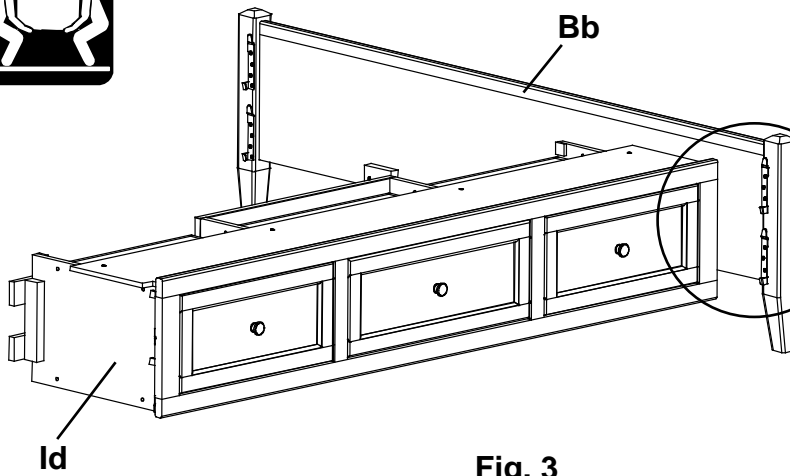

Fig. 3
- To attach the Footboard (Bb) to the Pedestal Assembly (Id), align the Brackets and slide the Pedestal Assembly down on to the Footboard (Bb). See Figures 3 and 3a.